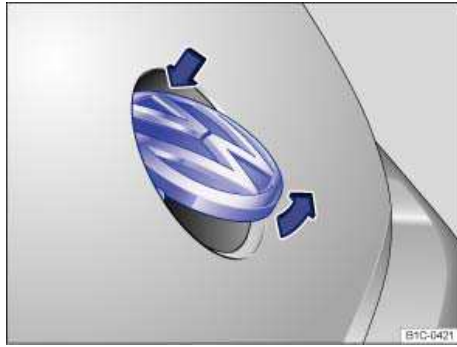

Fig. 29 Opening rear hatch from the outside.
- Using your thumb, press the top of the Volkswagen emblem ⇒ fig. 29 and move the top of the emblem down. Grasp the bottom part of the emblem and pull to lift the rear hatch.